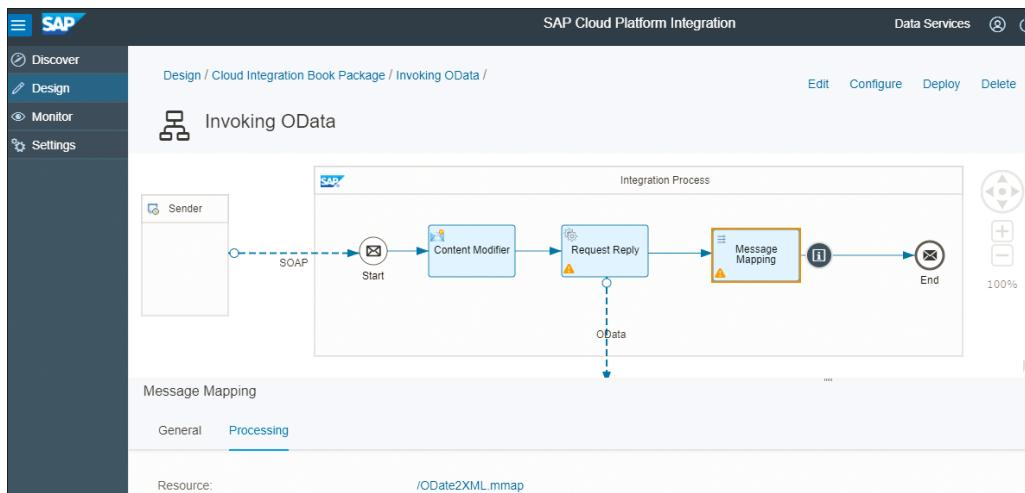

Figure 4.90 Overview of the Integration Flow
1. Open the integration flow, click the **Edit** button, and select the **Mapping** step (Figure 4.90). The property of the mapping appears on the bottom section.